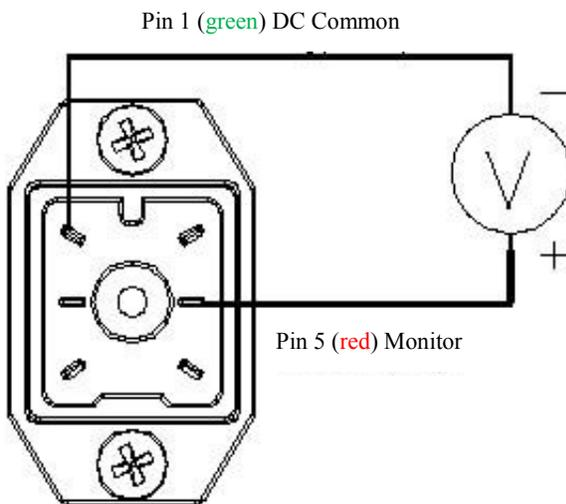

FIGURE 5 (Pressure signal monitor connection)
2. Pin #5 (red) may be used to monitor the pressure between the MizAir and the pump (refer to figure 5). This is the same pressure as is displayed on the gauge shown on the dimension drawing (last page). This signal is analog 0 to 4.1VDC = 0 to 120PSIG. This signal is the output of an operational amplifier. Load resistance should be greater than 1500 Ohms.